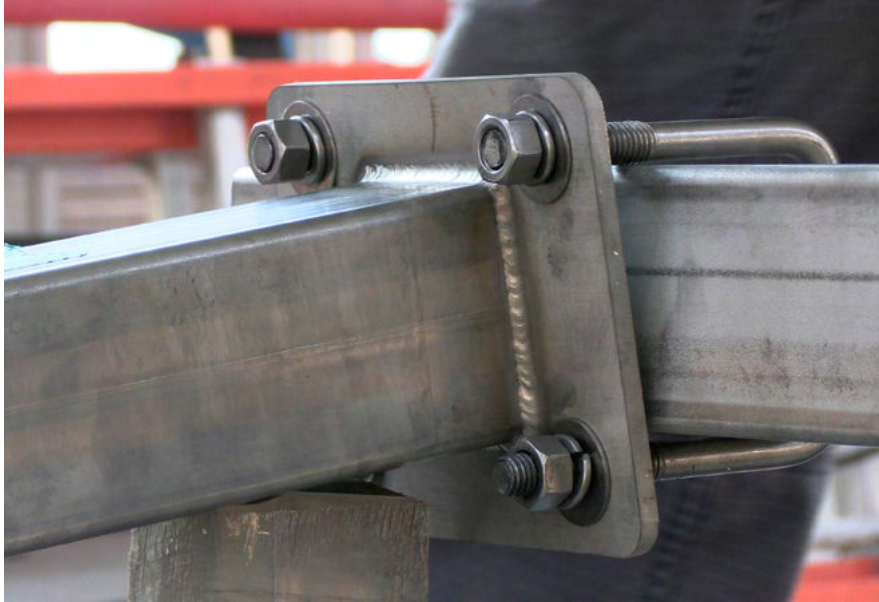

Fig. 3.2.1 - 1 - Attaching arch legs to crossbar
5. Insert two ½" stainless steel U-bolts into the holes at the top of each leg (Fig. 3.2.1 - 1).